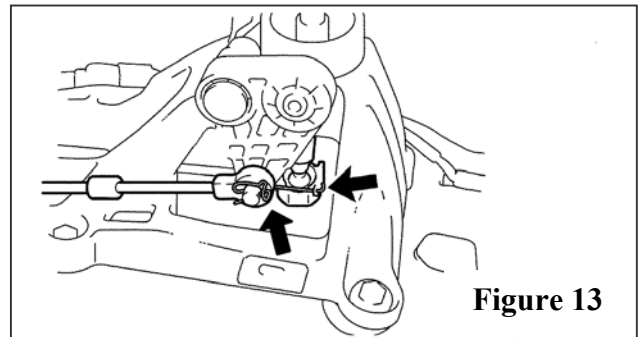

Figure 13
2. Connect transmission control cable assembly by connecting the ends of the transmission cables. Install the 2 OE clips (Figure 13).